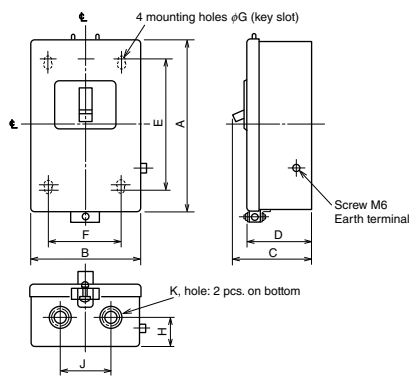

Fig. 1 Type S
If an automatic reset spring charge type (1) is required, the user must wire the device in accordance with the external connection diagram shown in Fig. 1 in "Cautions for use" in (2).
**(2) Structure and operation**
**■ Spring charge type (1)**